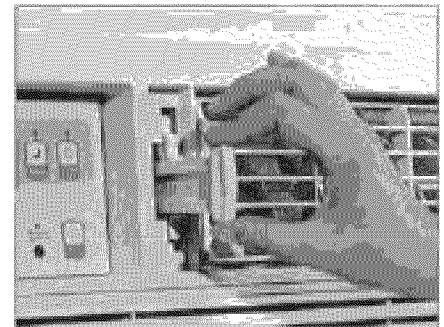

Fig. 3 (VENT)
3. Exchange air from the room and draws fresh air into the room - Vent and Exhaust Open (see Fig. 3)